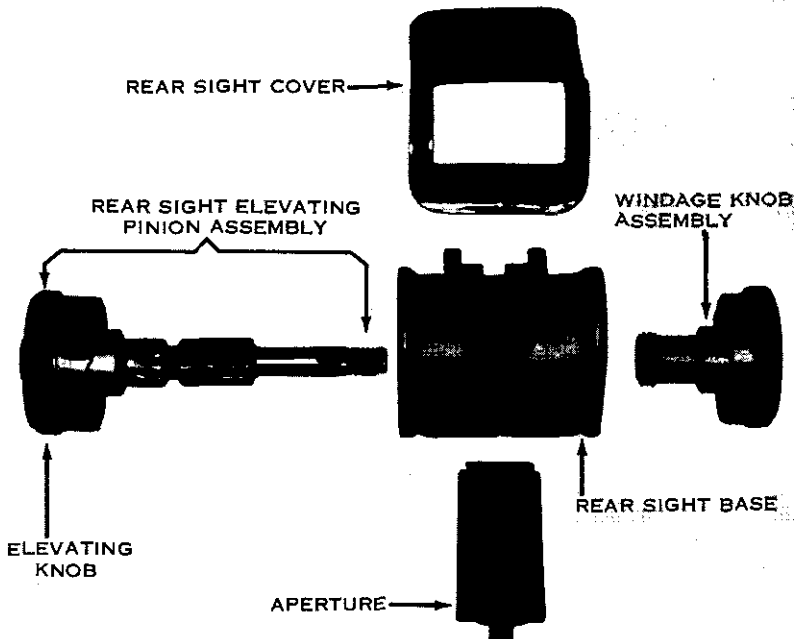

Figure 18. Parts of the rear sight (exploded view).
c. The parts of the rear sight are shown in figure 18.